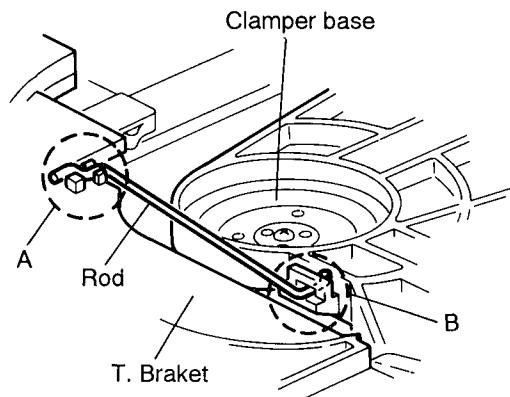
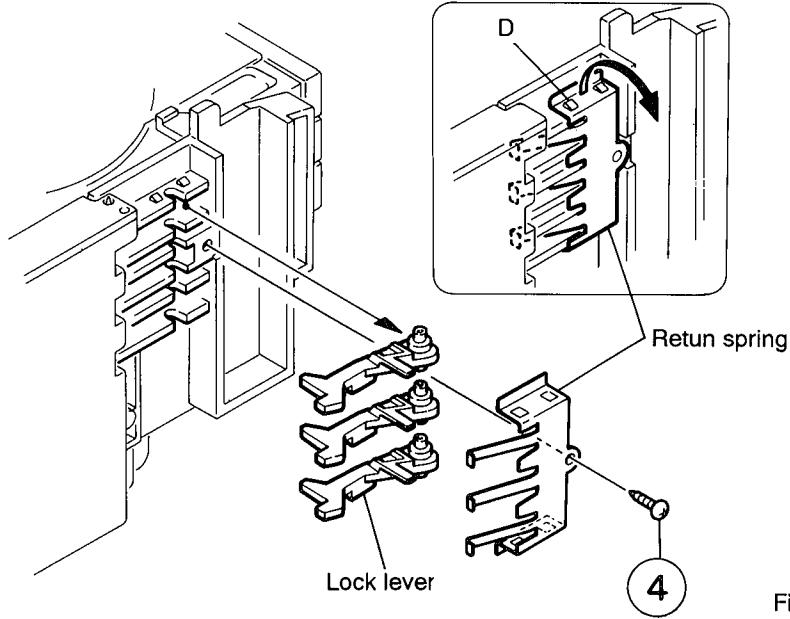

Fig. 2-9
Fig. 2-11
(See Figs. 2-9 to 2-15)
4. From the T. bracket section (A) and clamper base section (B), remove both of the edges fixing the rod (See Figs. 2-9 and 2-10).
5. Remove the three screws ① retaining the T. bracket (See Fig. 2-9)
6. From the left side face of the chassis assembly, remove the one screw ④ retaining both of the return spring and lock lever.
7. By removing the pawl at the section (D) fixing the return spring, dismount the return spring (See Fig. 2-11).